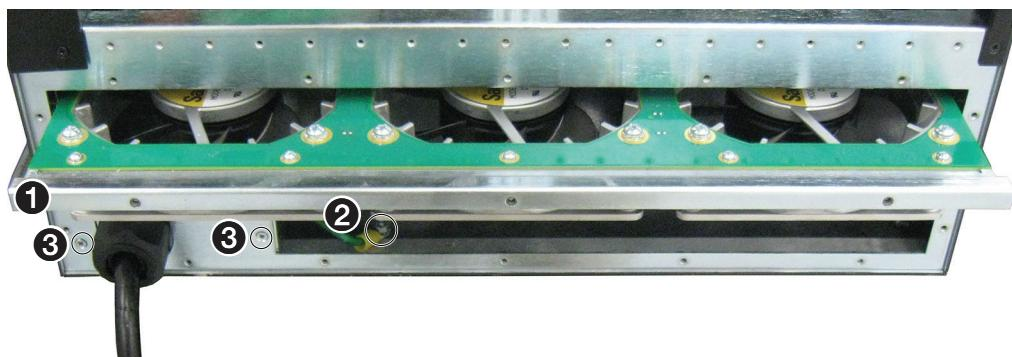

Figure 43. Remove Fan Assembly, Ground Stud, and Power Distribution Box
3. Pull the fan assembly out of the cabinet (see figure 43, ①).
4. Remove and retain the nut securing the ground strap to the chassis ground stud (see figure 43, ②). Remove the ground strap.
5. Remove and retain the two screws that secure the matrix switcher power distribution box panel in place (③). Lift the power box from the matrix switcher.